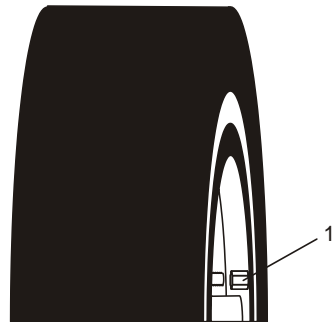

Fig. 3
- Place the wheel on the wheel studs and thread one wheel nut (1) clockwise onto each wheel stud (Fig. 3).